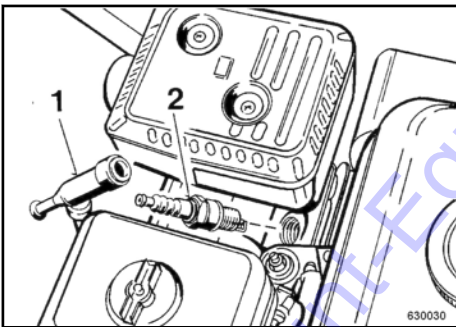

Fig. 44
Pull off the spark plug socket (1) ↪ Fig. 44 and unscrew the spark plug (2).